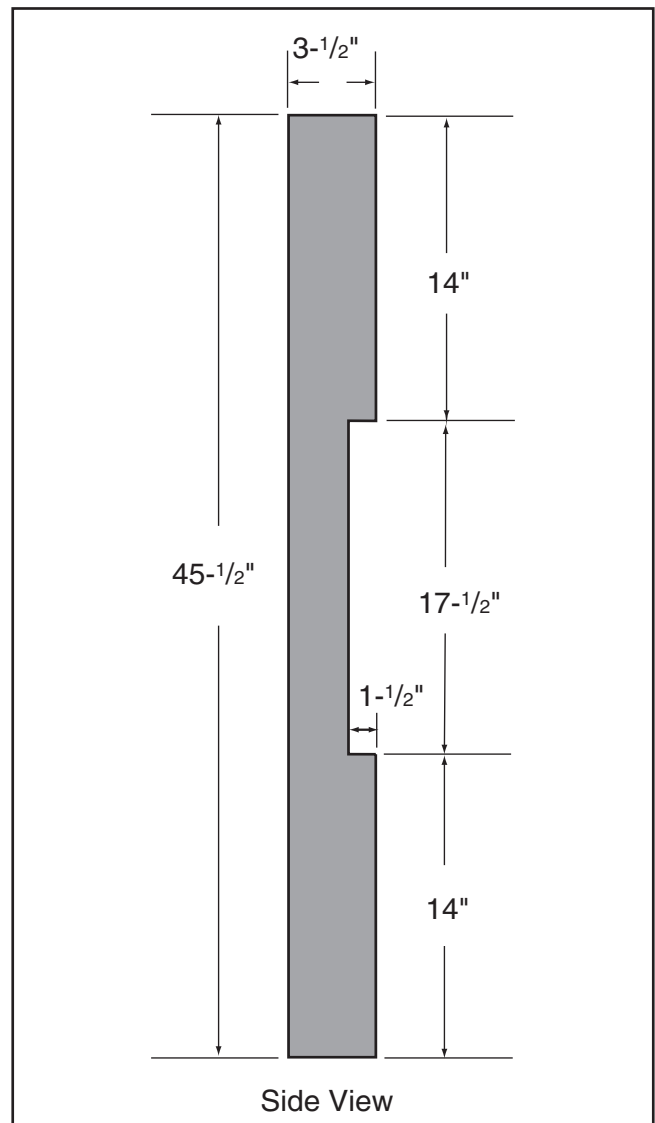

Figure 63. Dimensions of coplanarity gauge.
| Coplanarity Gauge (see Figure 63)..... | 1 |
1. Make the "Coplanarity Gauge" shown in **Figure 63**.